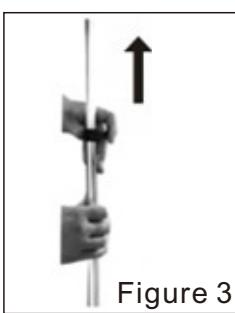
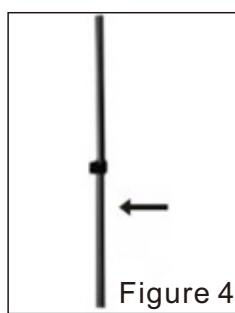

Figure 3
Figure 4
- ④ Pull open the two locking buttons (as shown in Figure 3) and pull up the extension-type aluminum pole, to pull out the three aluminum pole sections and adjust to an appropriate position, and then press the button (as shown in Figure 4)
- ⑤ As shown in Figure 4, insert the vapor hose into the vapor outlet of the main body, and tighten the vapor hose fixing knob clockwise.